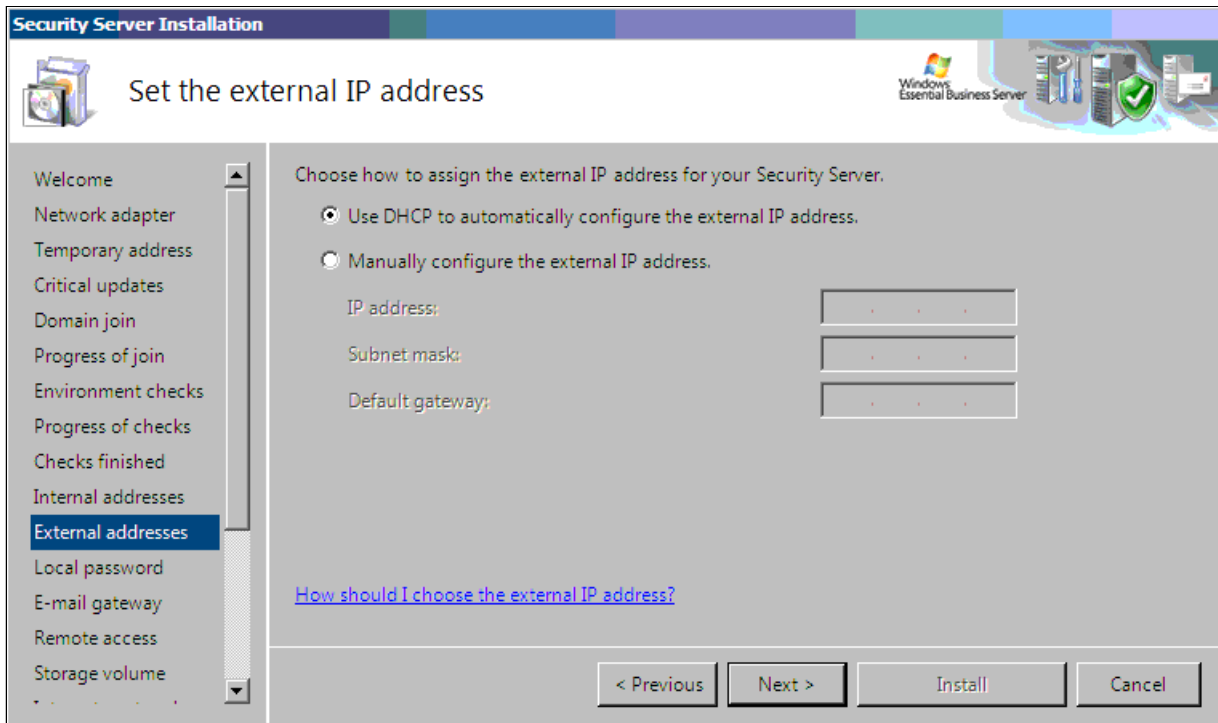

Figure 4-28 Set the external IP address
18. On the “Set the external IP address” panel (Figure 4-28), select the **Use DHCP to automatically configure the external IP address** radio button and click **Next**.